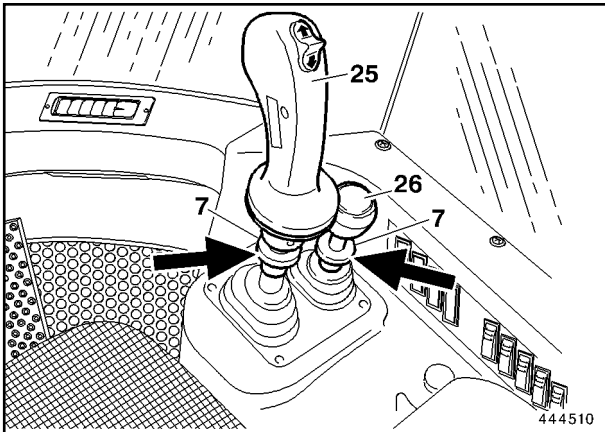

Fig. 5
Lock up control lever (26, Fig. 5) with locking device (7).
When changing the working equipment, the pins (3, Fig. 3) must be maintained in the retracted position with control lever (26, Fig. 5).